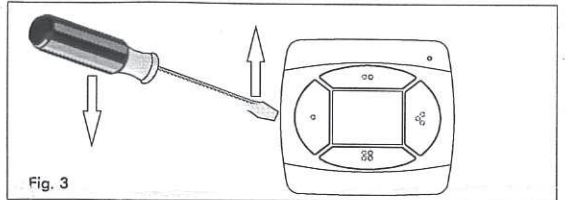

Fig. 3
- 2) Remove the batteries by inserting the point of the screwdriver on the on the semicircle niche present on the perimeter of the hole which contains the batteries (Fig. 3) .